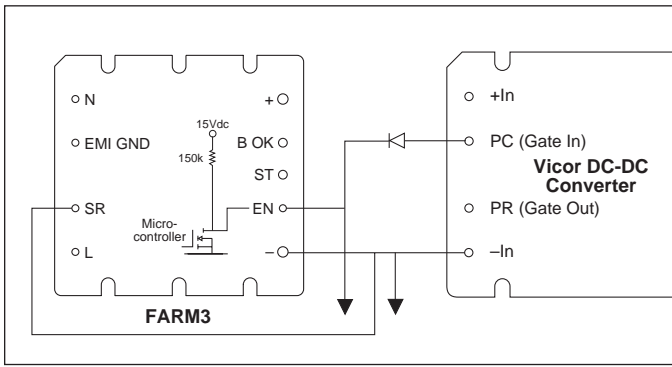

Figure 11—Enable (EN) function
**Strap (ST) Pin.** In addition to input and output power pin connections, it is necessary to connect the Strap pin to the center junction of the series hold-up capacitors ( $C1$ ,  $C2$ ) for proper (autoranging) operation. Varistors  $V1$  and  $V2$  provide capacitor protection. The bleeder resistors ( $R1$ ,  $R2$ ) discharge the hold-up capacitors when power is switched off. Capacitors  $C7$  and  $C8$  are recommended if the hold-up capacitors are located more than 3 inches from the output pins.
**Enable (EN) Pin.** The Enable pin must be connected to the PC or Gate-In pin of all converter modules to disable the converters during power-up. Otherwise, the converters would attempt to start while the hold-up capacitors are being charged through the current limiting thermistor, preventing the bus voltage from reaching the thermistor bypass threshold, thus disabling the power supply. The Enable output (the drain of an N channel MOSFET) is internally pulled up to 15V through a 150k $\Omega$  resistor. (see Figure 11)